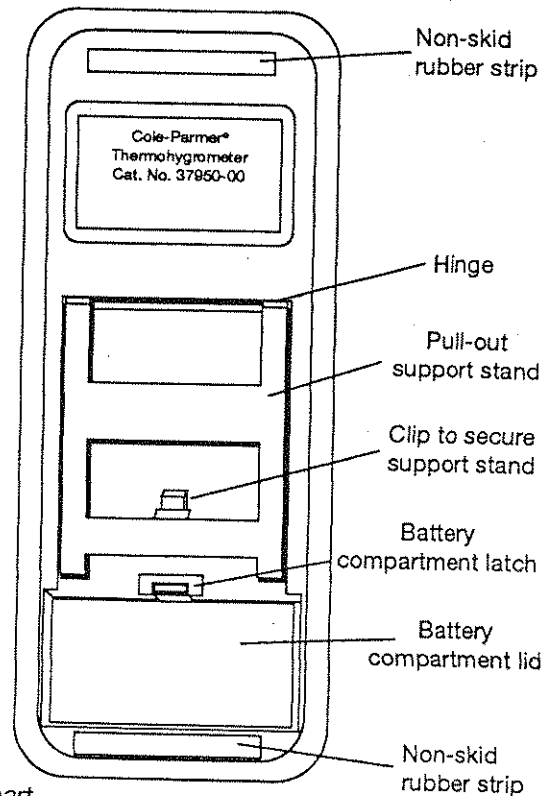

Figure 1. Back view.
2. Using your fingernail, a coin, or another sharp instrument, pry open the battery compartment cover by pulling back and lifting up the latch. See Figure 1.